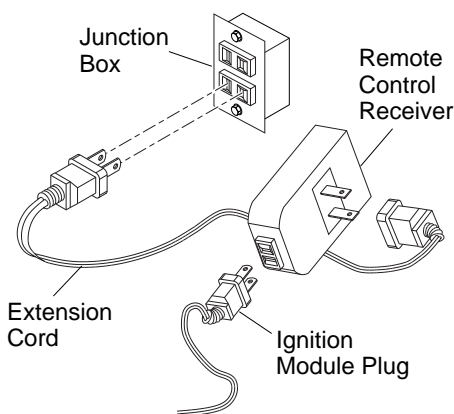

Figure 37 - Installing the WRC Remote Receiver
1. The WRC model receiver does not require a battery. The receiver can be installed by first plugging the short extension cord into the fireplace junction box. Then plug the receiver unit into the extension cord. Finally plug the ignition module plug into the receiver unit (see Figure 37).